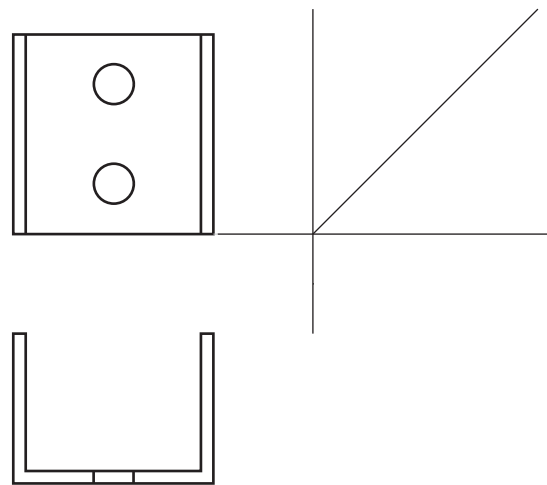

Fig. 12-4
- Create temporary lines as shown in Fig. 12-4. The vertical line is at an arbitrary distance from the top view.